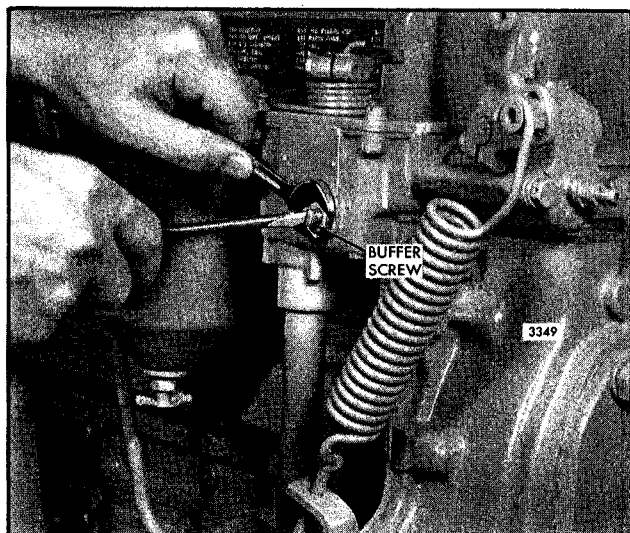

Fig. 5 - Adjusting Buffer Screw
1. With the engine running at idle speed, loosen the lock nut and turn the buffer screw in (Fig. 5) so that it contacts the differential lever as lightly as possible and still eliminates engine roll.